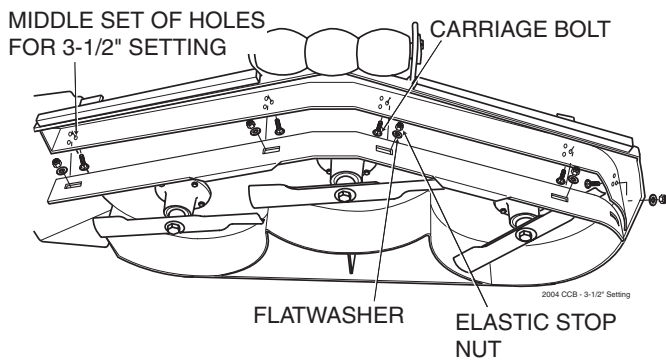

Figure 16. 3-1/2" Custom-Cut Baffle Position
- B. 3-1/2" Position (factory setting, Advantage Deck) - baffle is installed using the middle set of holes on the front baffle welded inside the cutter deck. (See Figure 16). For general purpose cutting, place the Custom-Cut Baffle in the 3-1/2" position. This gives the best mix of cutting performance in all types of grass.